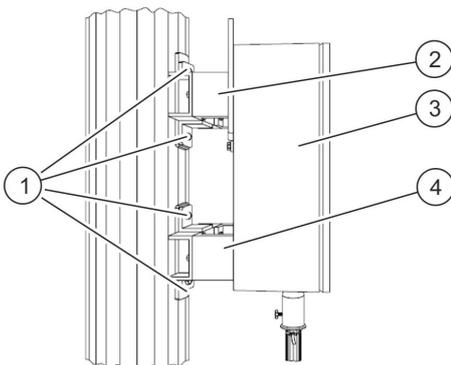

Fig. 13: Assembly on a concrete pole (side view)
1. ➤ Install the TracFeed® SFA (Fig. 13/3) on the retaining brackets (Fig. 13/2 and 4).
2. ➤ Screw the retaining brackets (Fig. 13/2 and 4) to the embedded threaded sleeves (Fig. 13/1) using M20 fastening bolts.